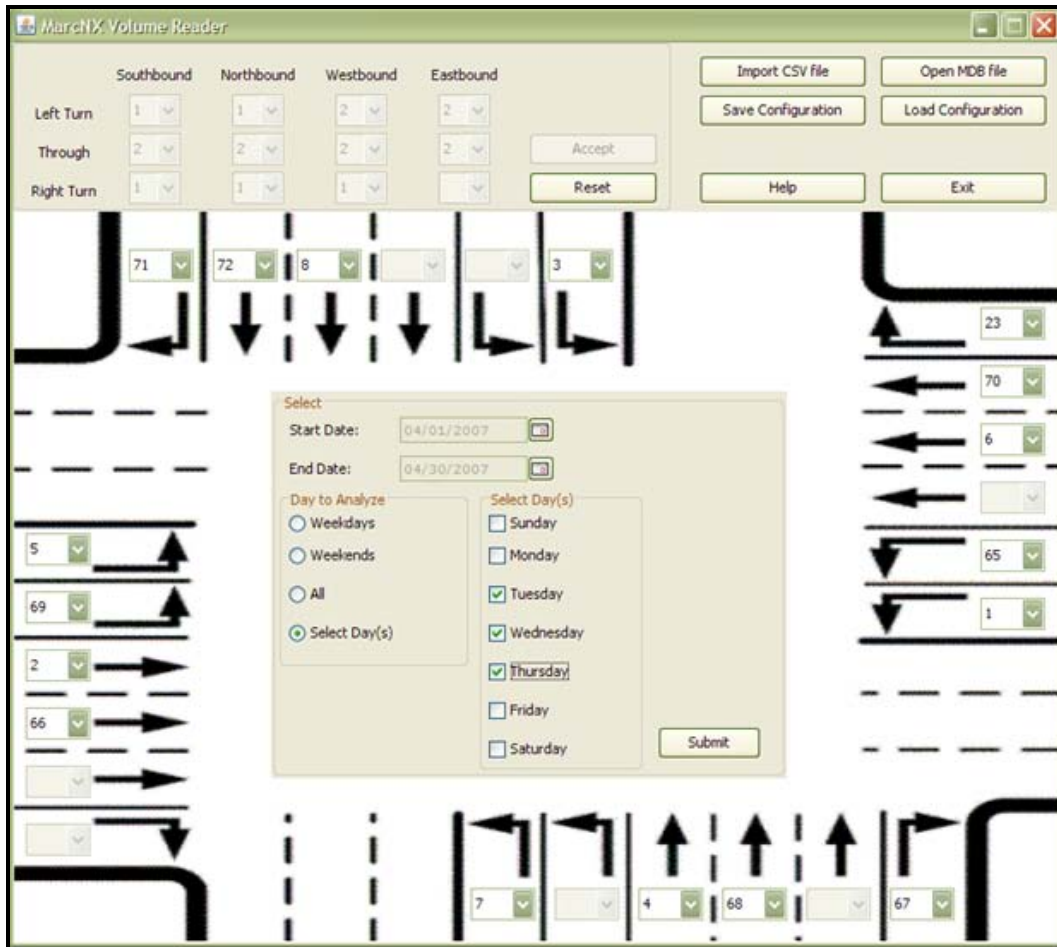

Figure 3. Analysis duration and days of the week.
4. Based on the data collection dates contained in the .CSV file, select the appropriate Start Date and End Date by selecting the calendar button (Figure 3).